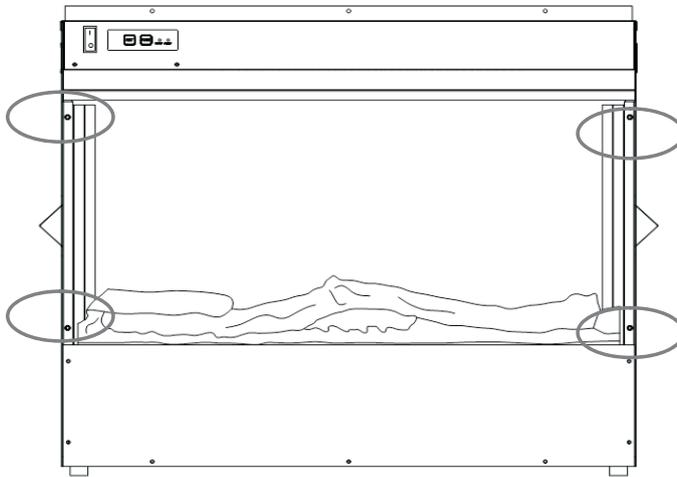

Figure 19 Take out the log
1. Unscrew four screws show in the figure 19. Take RH and LH highlight bracket out.